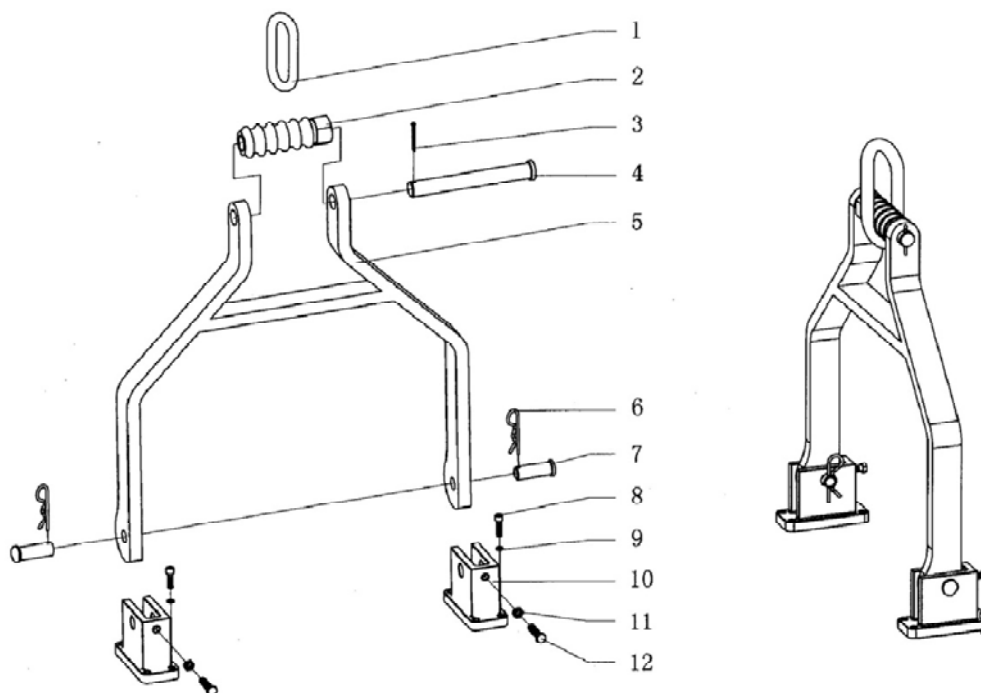

Fig 21
7.18. Suspension Bar (Fig21, Table20)